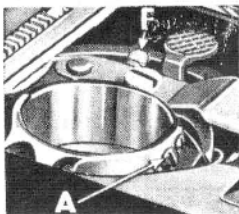

Fig. 13
Tension on bobbin thread is regulated by screw A, Fig. 13, nearest center of tension spring. Turn screw A over to right to increase tension; turn screw to left to decrease tension.
- Apply a few drops of oil to the felt pad **F, Fig. 13.**